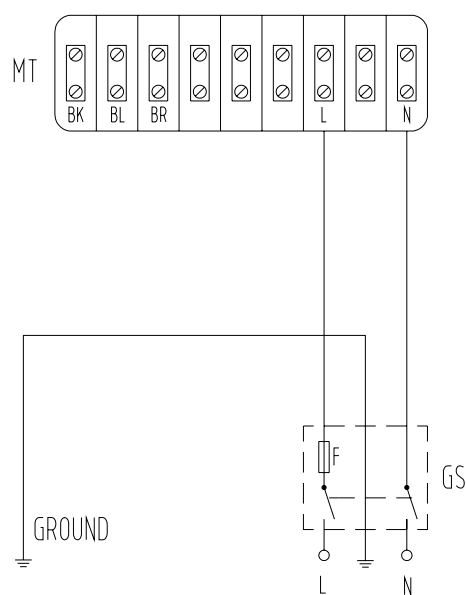
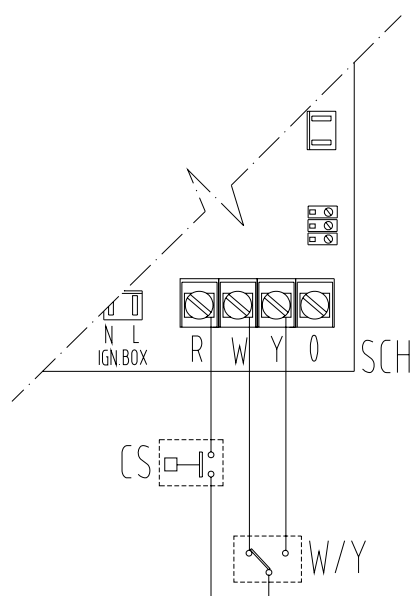
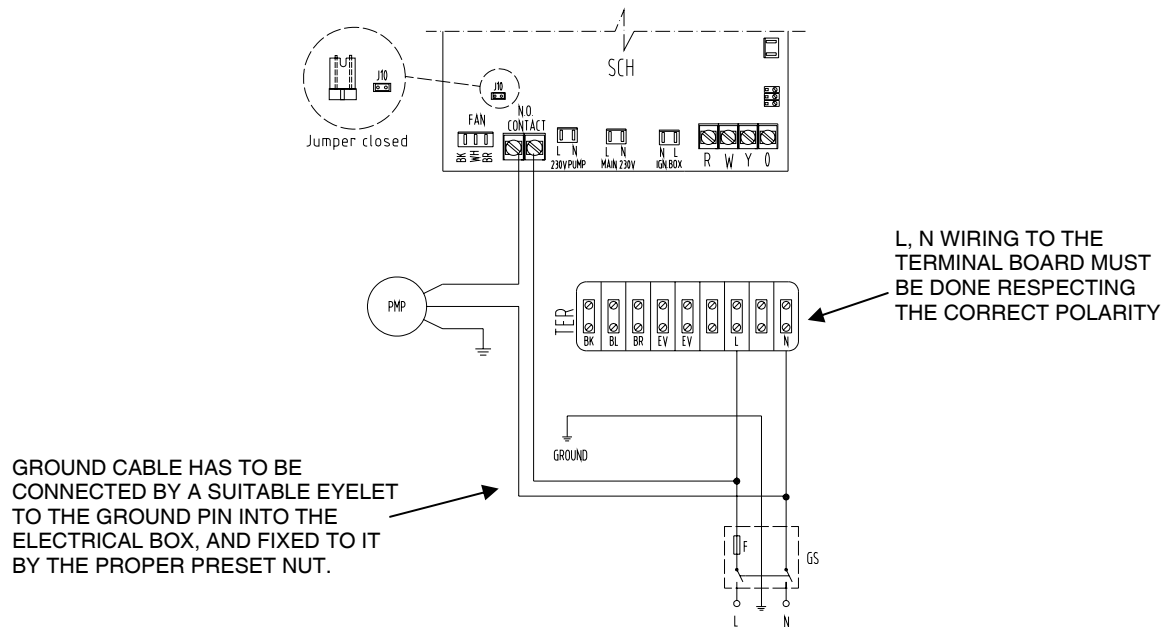

Figure 17 - Example of connection of appliance to 208-230 V 1 N - 60 Hz electricity supply; fuse type: T-type, 2x5A or 1x10A.
Figure 18 - Example of electrical connection of on/off commands and summer/winter selector.
Figure 19 - Example of pump/appliance electrical connection with 230 Vac pump (with absorbed power of < 4 A), controlled directly by the appliance
- Connect the appliance to the mains supply according to the electrical diagrams in Figure 17 and Figure 18, Figure 19 or Figure 20 or Figure 21, pages 53 and following.
5. Connect the on/off command and the summer/winter selector (W/Y) to the terminals **R**, **W** and **Y** of the control circuit of the appliance as shown in Figure 18 on page 53 (see details "CS" and "W/Y").
If the power absorbed by the pump is less than 4 A, make the connection as shown in Figure 19, page 55 and check that the jumper (J10, located at the bottom left of the electronic board, above the "NO Contact" contacts) is CLOSED, as shown in the detail "jumper closed".